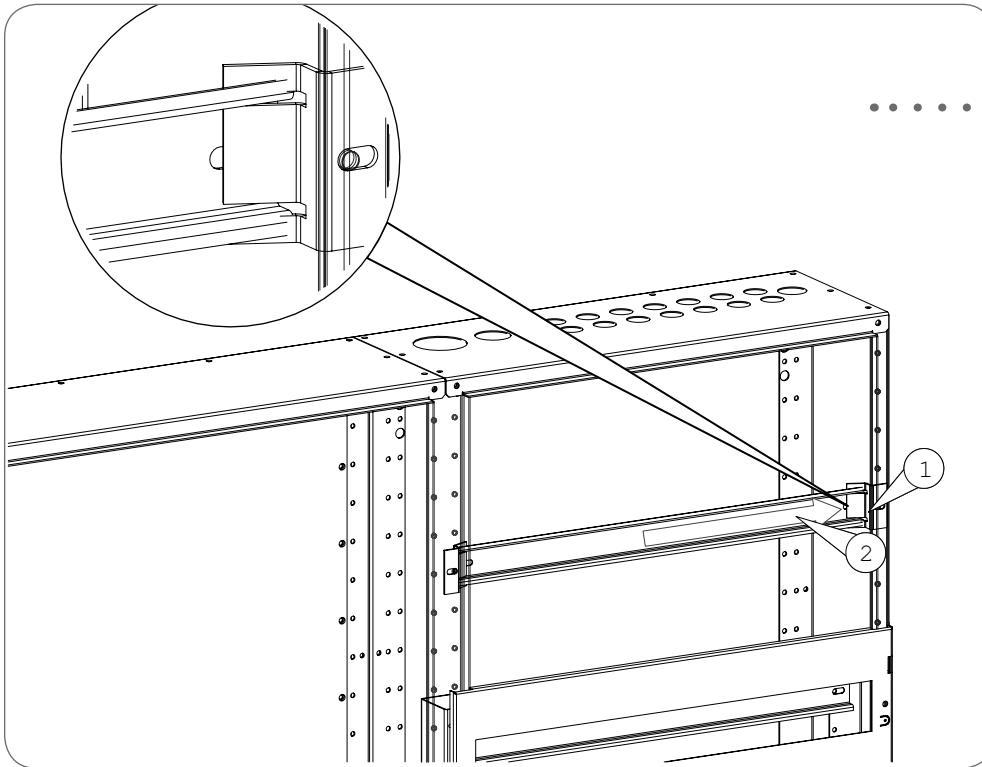

Fig 8.10.4 DIN rails are installed by pushing the rail into the DIN rail bracket.
A pair of DIN rail brackets (2) can be used for mounting single DIN rails (1). The brackets can be installed to side plates or front profiles, for instance. The rail is pushed into the slot in the DIN rail bracket as shown in Fig. 8.10.4.